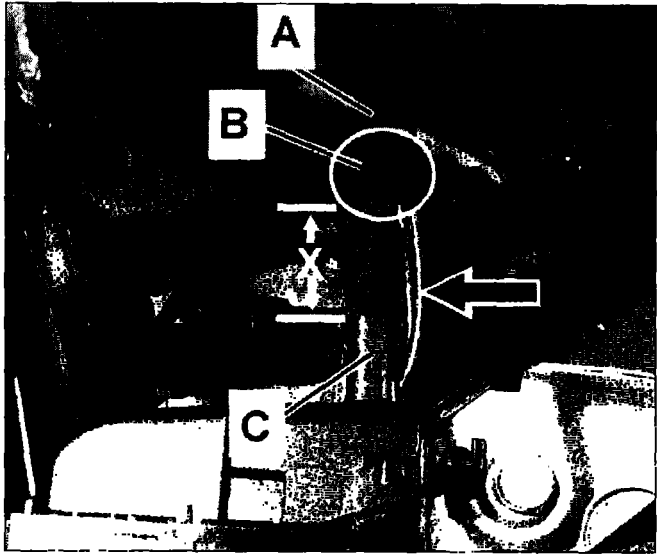

Figure 15
21. Secure ground wiring harness (arrow, Figure 15) to SBC wire harness (A) using two layers of fabric tape (B) in the circled area. Start taping approximately 35 mm ( $X = 35$  mm, Figure 15) from end of connector cover receptacle (C).